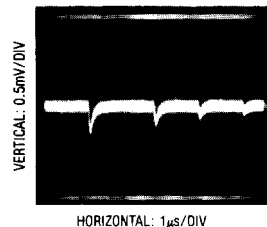

Figure 15. Adequate Reference Settling
2. Transients on the reference inputs caused by the capacitive switching currents must settle completely during each bit test (each 4 ACLK cycles). Figures 15 and 16 show examples of both adequate and poor settling. Using a slower ACLK will allow more time for the reference to settle. However, even at the maximum ACLK rate of 2MHz most references and op amps can be made to settle within the 2 $\mu\text{s}$  bit time.